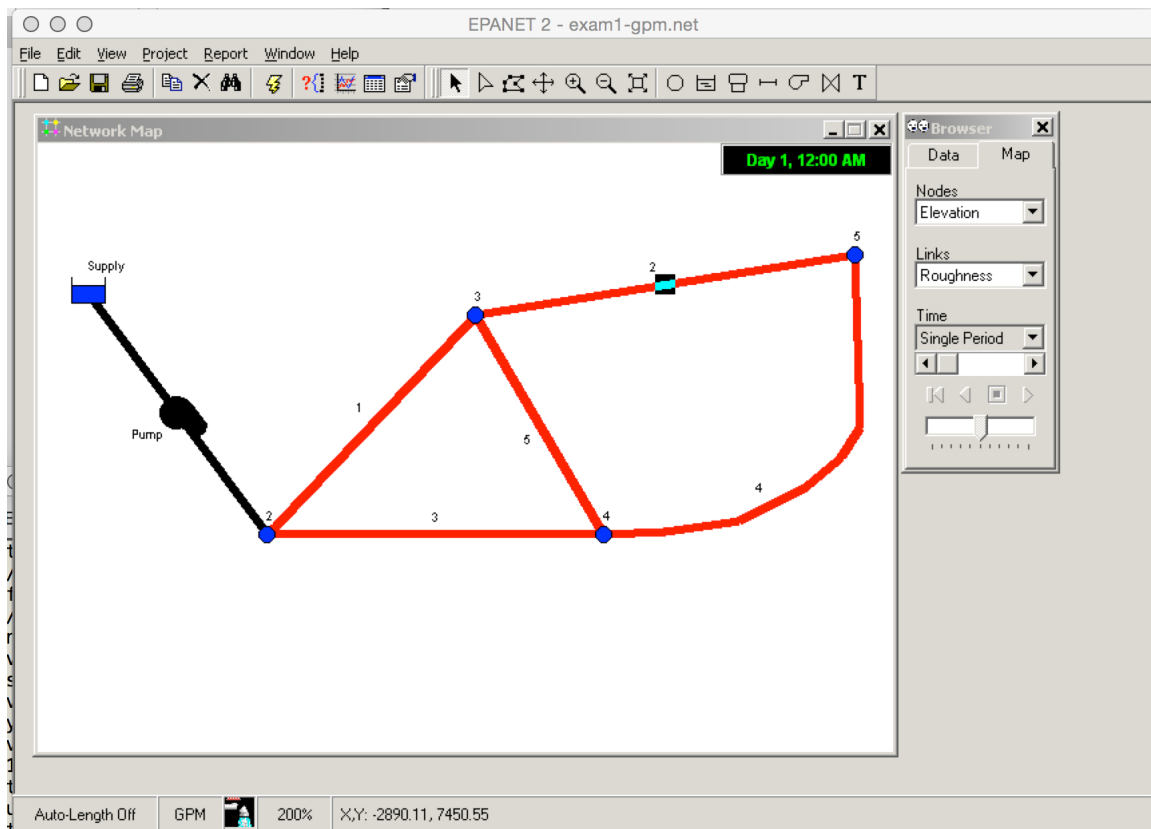

Figure 3: EPA-NET system topology.
7. (46 pts.) An EPA-NET simulation model for a reservoir-pump-network was constructed and operated for four (4) different operational scenarios. Figure 3 is a depiction of the network. The numbers next to the nodes are Node\_ID values in the reports that follow, and the numbers next to the pipes are the Link\_ID values. The network is supplied from a reservoir through a booster pump, both are depicted on Figure 3.